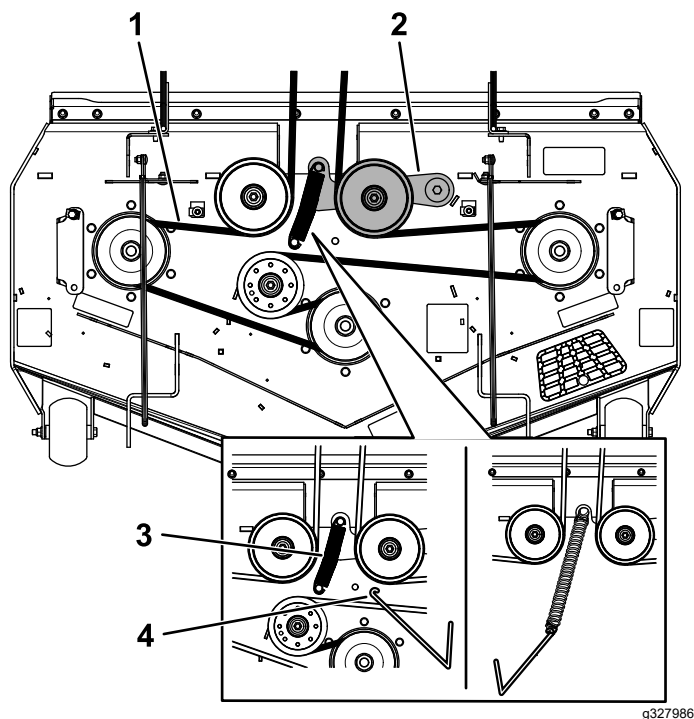

Figure 61
6. Using a spring-removal tool (Toro Part No. 92-5771), remove the idler spring from the deck hook to remove tension on the idler pulley (Figure 61).
8. Install the new belt around the mower pulleys (Figure 61).
9. Install the idler spring to the deck post (Figure 61).